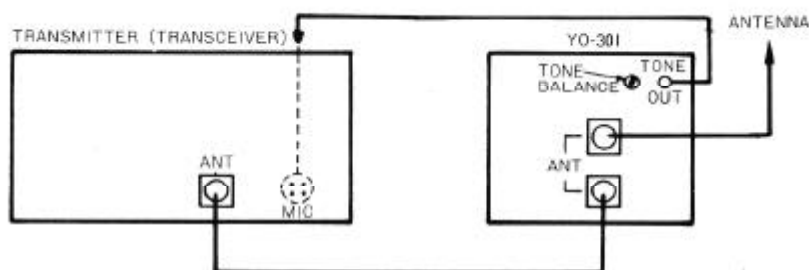

Figure 3
- (3) Push the POWER switch of the monitorscope and adjust the controls as described in the initial adjustment procedure.
- (4) Turn on the transmitter and adjust the H. GAIN, SWEEP FREQ and SWEEP FINE controls for the desired pattern display.
- (5) Internal tone generator signal may be used for SSB or AM transmitter with the shielded cable. Use either 1500 kHz or 1900 kHz for signal tone test. In SSB transmission, set the TONE SELECTOR switch to TWO TONE position. Refer to Figure 3
- (6) Refer to the patterns on Page 10 for the evaluation of the transmitted signal.